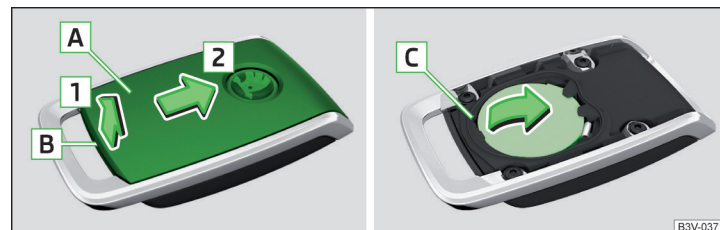

Fig. 333 Open the cover/remove the battery
- Use a thin screwdriver to remove the cover **A** in the area **B** » Fig. 333.